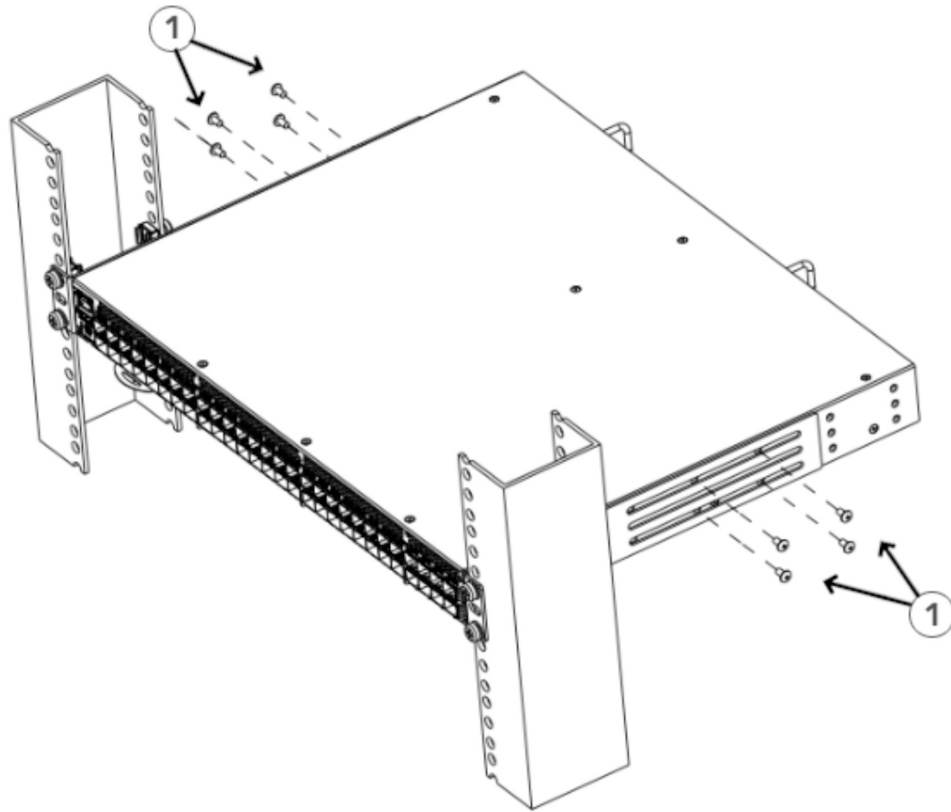

Figure 20. Attaching the rear brackets to the device
1. Align the right rear bracket to the right rear of the device and use four 8-32 x 5/16-in. panhead screws to attach the bracket to the device, as shown in Figure 20 on page 31. Be sure to insert the screws through the upper and lower slots in the bracket.